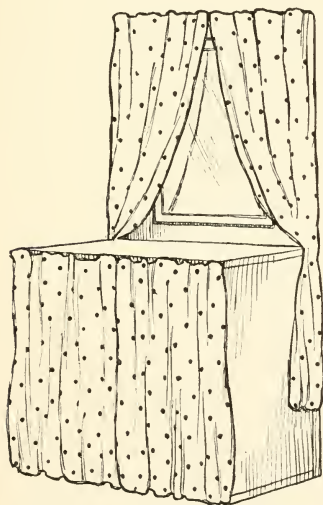

FIG. 282. — Dresser Completed.
**The Dresser** shown in Fig. 282 is made out of a box the same size as the larger one used for the folding-bed.